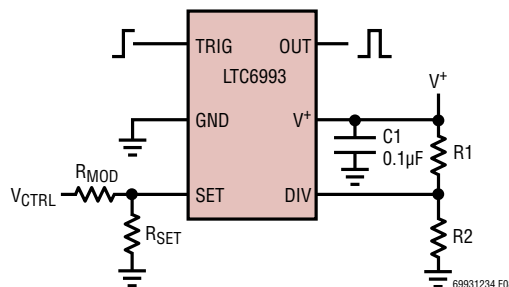

Figure 8. Voltage-Controlled Pulse Width
With one additional resistor, the LTC6993 output pulse width can be manipulated by an external voltage. As shown in Figure 8, voltage V_{CTRL} sources/sinks a current through R_{MOD} to vary the I_{SET} current, which in turn modulates the pulse width as described in Equation (3).
Following a 2× or 0.5× step change in I_{SET}, the output pulse width takes approximately six master clock cycles (6 • t_{MASTER}) to settle to within 1% of the final value. An example is shown in Figure 10, using the circuit in Figure 8.